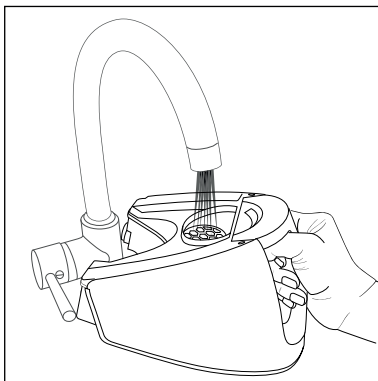

Fig. 2
- 2) Fill the water tank **7** with tap water or distilled water through the filler opening (see Fig. 2).